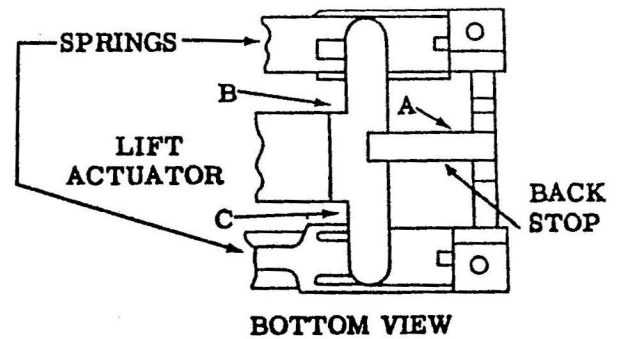

Figure 1. Talk Key
- (1) The lift actuator must clear the lifts by 0.005 inch minimum as gauged by eye, with the key normal. If necessary, adjust the back stop at location A as indicated in Fig. 1.
- (2) Travel of the lift which actuates the transfer combination must be 0.036 (+0.002) inch. If necessary, adjust the lift actuator at location B as indicated in Fig. 1.
- (3) Travel of the other lift must be 0.028 (+0.002) inch. If necessary, adjust the lift actuator at location C as indicated in Fig. 1.
- (4) Tension springs must not touch the top stop support. Do not alter the normal tension (200 to 400 grams).
- (5) Tension of the break spring of the transfer combination against its stop must be between 20 and 25 grams.
- (6) Tension of the make springs against their stops must be between 30 and 35 grams.
- (7) Levers of the two break combinations must bear against the top of the lift stop
- (8) Tension of the break spring of each break combination against its stop must be between 40 and 50 grams.